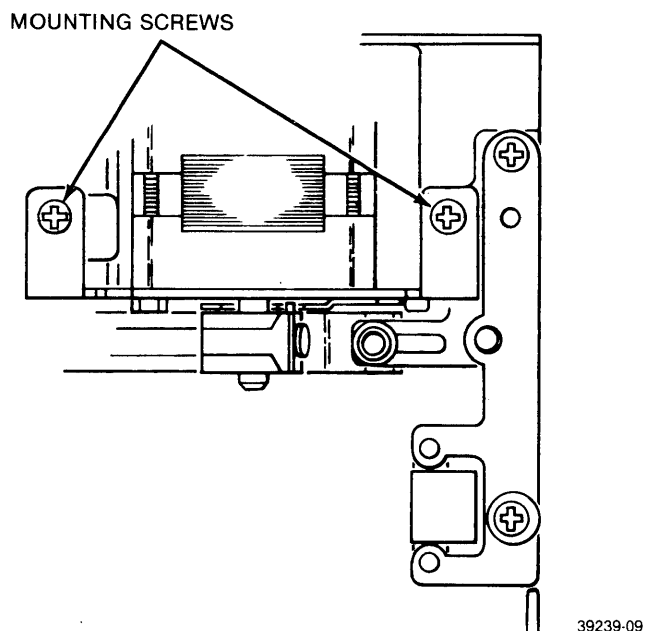

FIGURE 5-7. STEPPER MOTOR MOUNTING SCREWS
- Loosen two mounting screws, which hold stepper motor to base casting (see figure 5-7).
- When lobes are of equal amplitude, tighten motor plate mounting screws (see figure 5-7).